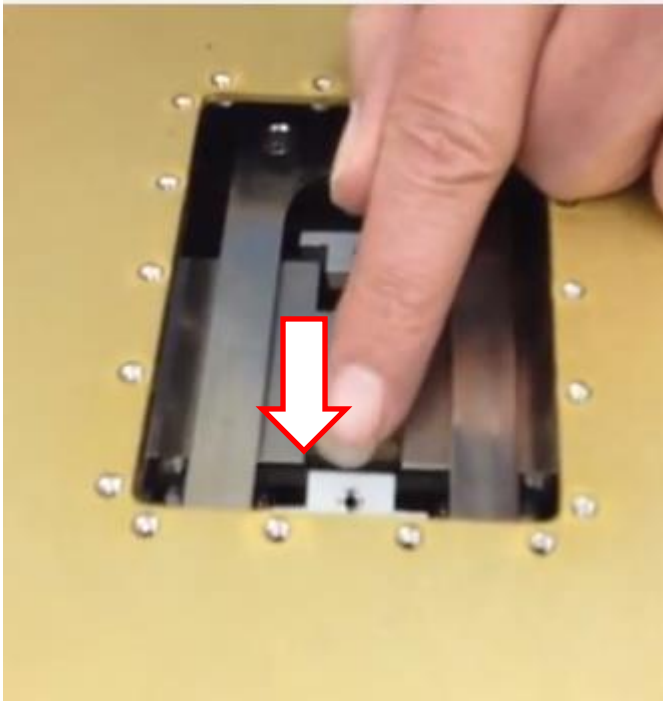

Figure 16: Pushing the Window
4. Next, gently push the window with your finger as shown in Figure 16.